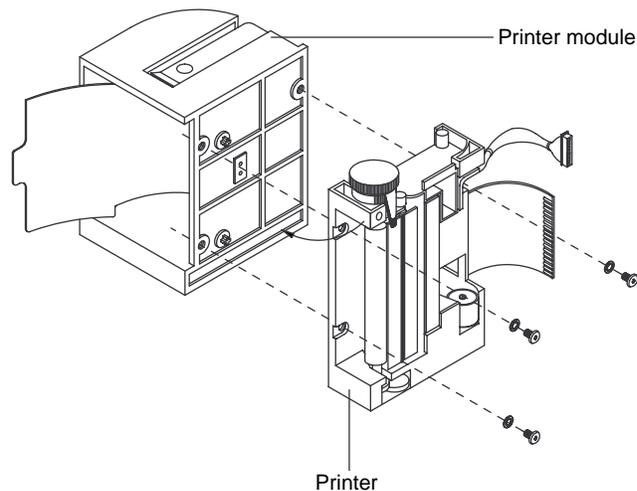

Figure 6-18: Disconnecting Printer
- Disconnect the printer from the printer module by removing the three mounting screws as illustrated in Figure 6-18.
8. Reconnect the printer to the printer module by replacing the three mounting screws as illustrated in Figure 6-18.